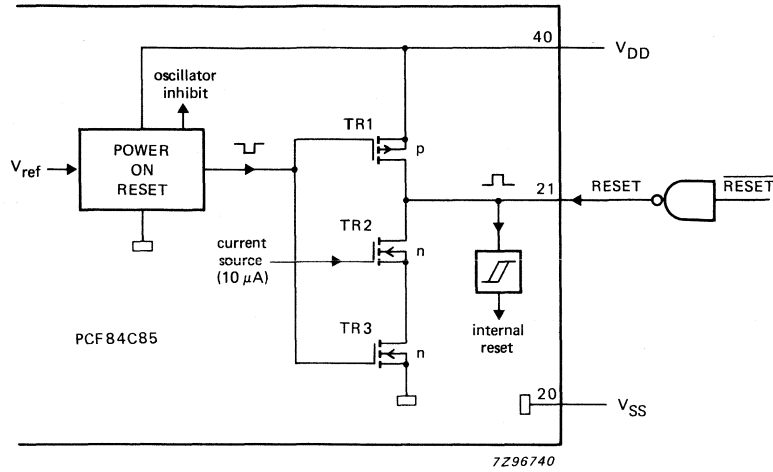
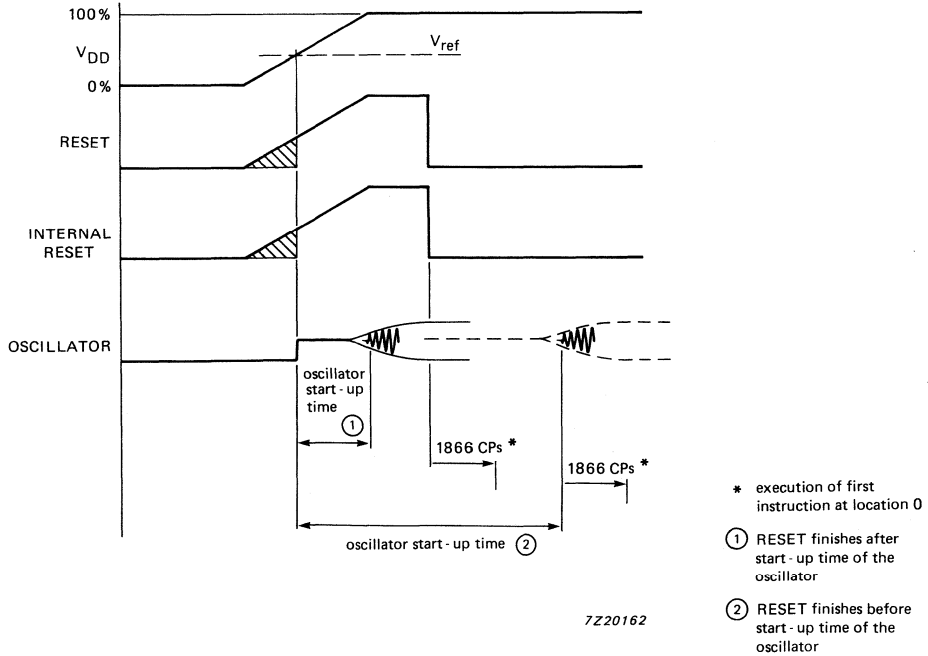

Fig. 25 External power-on-reset configuration.
Fig. 26 Timing of external power-on-reset.
3. Figure 25 shows an external reset to the PCF84C85 during power-on. The external reset signal must remain HIGH until  $V_{DD}$  has reached its minimum operating value corresponding to the selected oscillator frequency. When a reset is completed (RESET goes LOW) before the oscillator has started up, program execution begins after the oscillator start-up time plus 1866 clock periods have elapsed (see Fig. 26). If the oscillator is started-up prior to the completion of RESET, then program execution begins 1866 clock periods after RESET goes LOW.